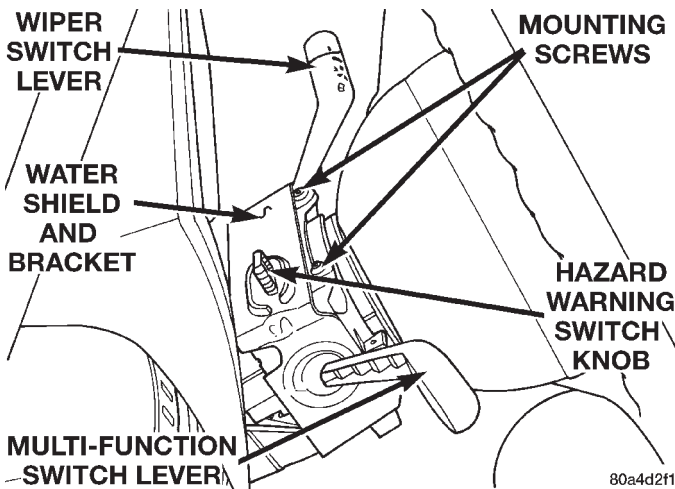

Fig. 6 Water Shield Upper Screws Remove/Install
(5) Remove both the upper and lower shrouds from the steering column.
(6) Remove the two screws that secure the multi-function switch water shield and bracket to the top of the steering column (Fig. 6).